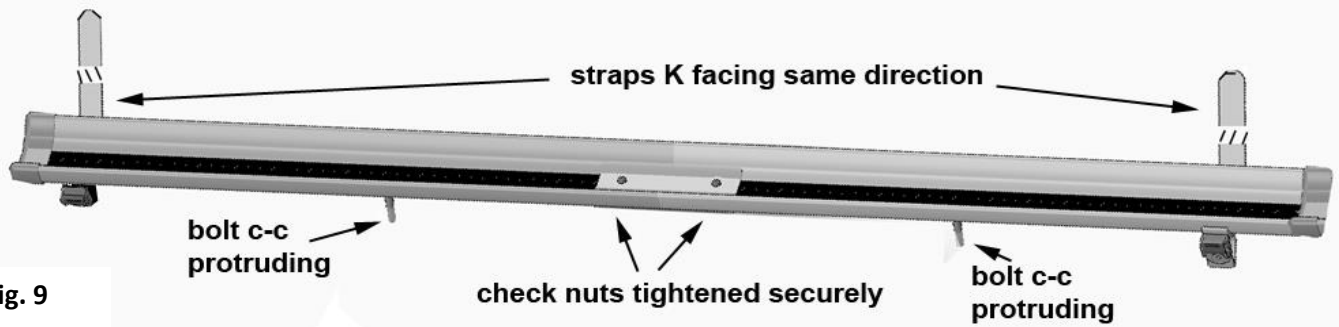

Fig. 9
**Be sure carriage bolts c-c are protruding from bottom of slot in the tray and both straps K are facing the same direction per Fig. 9**